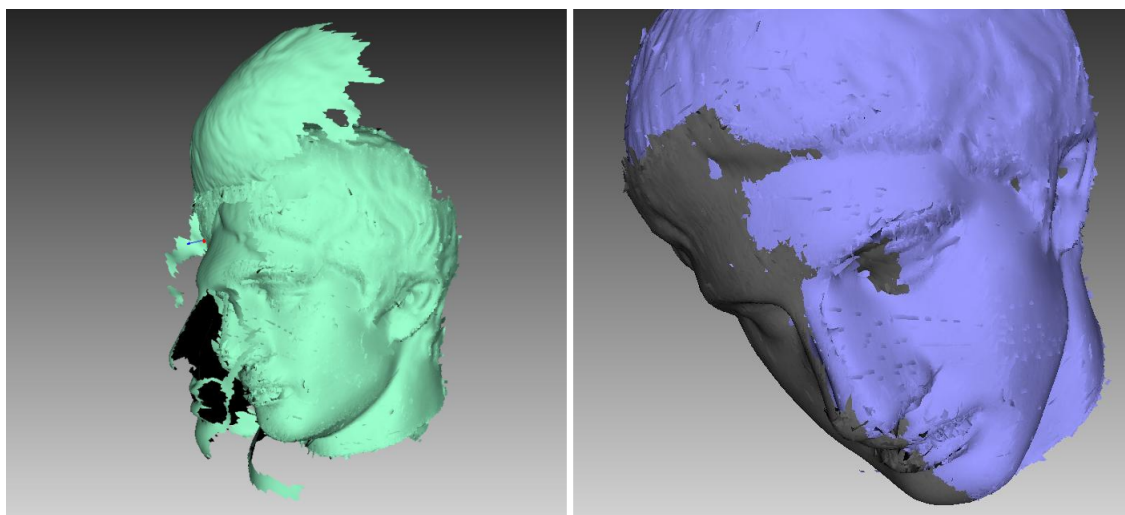

Figure 97: Global-registration errors: wrong settings on left and gap between scans on right.
- After the global-registration algorithm finishes, the frames are in disarray (see Figure 97, left) or the frame positions are unchanged. This error occurs because the application is configured for a different scanner type than the one that captured the data. Change the device type in the application settings (see Algorithm Settings).
- The algorithm has completed successfully, but a gap exists between two or more scans (see Figure 97, right). Select just these scans in the *Workspace* panel and run the global-registration algorithm. If the scans have drawn closer to each other but have failed to align after the algorithm finishes, increase the number of iterations and rerun the algorithm. Repeat this process until you achieve full alignment, then run global registration once again for all data. If you are unable to align several problematic scans, try aligning just two of them, then gradually increase the number of scans until all of them are aligned.